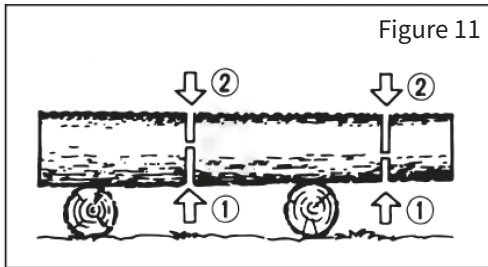

Figure 11
- For trunks elevated off the ground, begin by cutting the first part from underneath, then cut from above (see Figure 11).